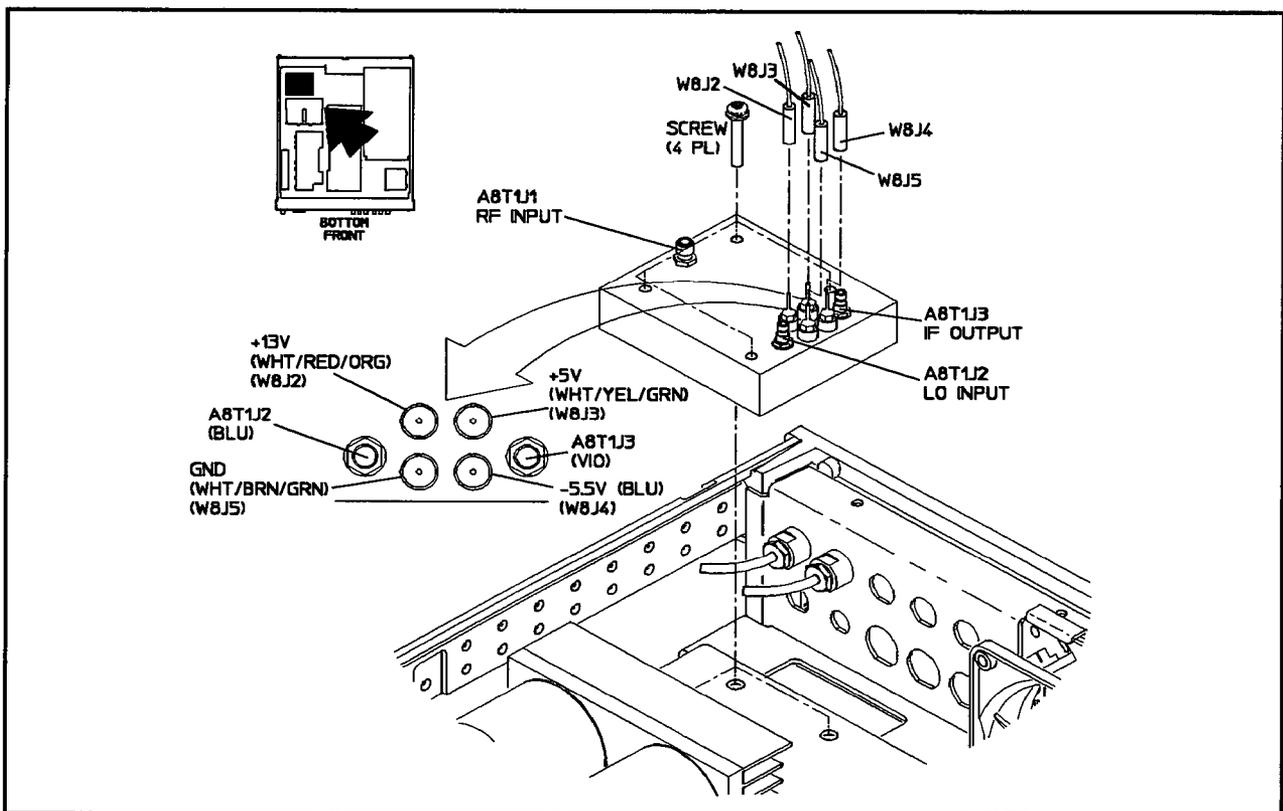

Figure 5-32. Sampler Removal
3. In the introduction to this chapter, refer to "Semi-Rigid Coaxial Cables" and Figure 5-32. Then, using a 5/16 in open end wrench, carefully remove the semi-rigid cable, W40, from the output module SAMPLER OUT connection and the Sampler RF INPUT connector.
4. Disconnect the four single wire lead contacts from the DC cable to the Sampler. See Figure 5-32:
5. Refer to "Flexible Coaxial Cables" and Figure 5-32. Then, using a 15/64 in end wrench, carefully remove the following cables from the SMC connectors:
6. Using a size 10 TORX® screwdriver, remove the four screws securing the Sampler to the microwave deck as in Figure 5-32.
1. Install the Sampler Microcircuit by loosely mounting it to the microwave deck with four mounting screws as shown in Figure 5-32. Do not tighten the mounting screws.